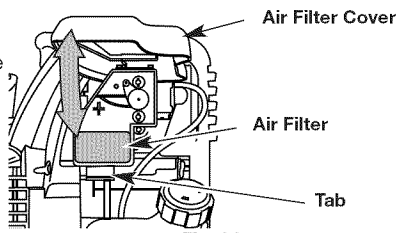

Fig. 24
- Open the air filter cover. Push the tab on the under side of the cover inward. Then pull the air filter cover out and up. (Fig. 24).
- Remove the air filter (Fig. 24).
- Replace the filter (Fig. 24).
- Reinstall the air filter cover. Position the slots on the top of the air filter cover onto the tabs at the top of the back plate (Fig. 24).
- Swing the cover down until the tab on the air filter backplate snaps into place in the slot on the air filter cover (Fig. 24).